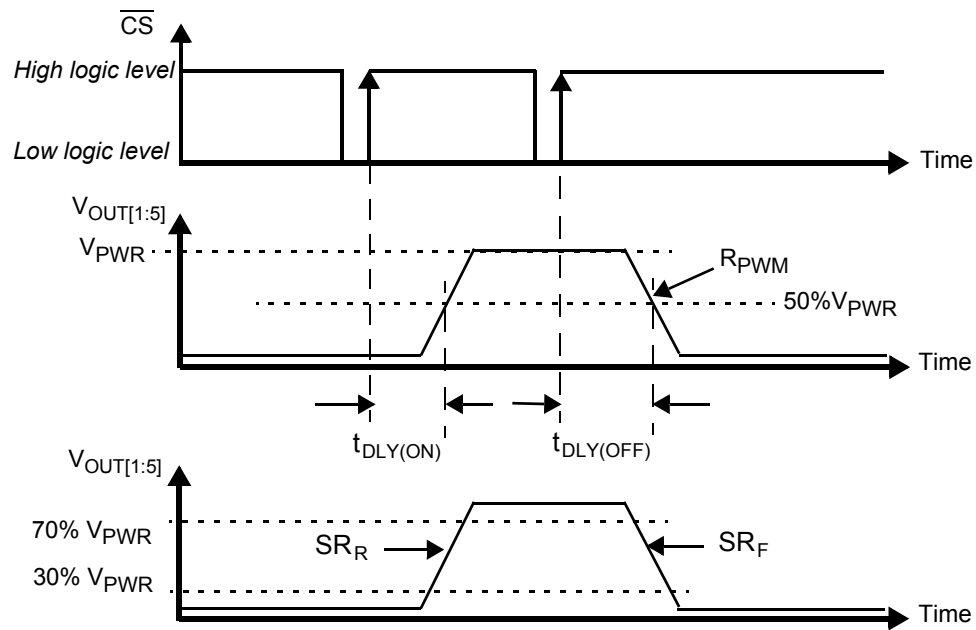

Figure 6. Output Slew Rate and Time Delays
42. The PWM ratio is measured at $V_{OUT} = 50\%$ of V_{BAT} in nominal range of PWM frequency. It is possible to put the device fully on (PWM duty cycle = 100%) and fully off (PWM duty cycle = 0%). Between 4%-96%, OCHI_{1,2}, OCLO and open load are available in ON state. See Figure 6. Output Slew Rate and Time Delays.